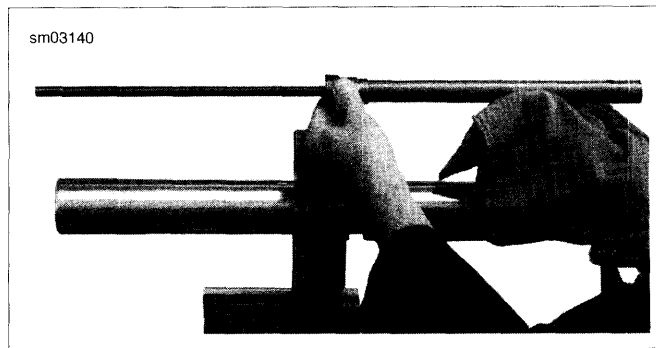

Figure 2-150. Cartridge Assembly
3. See Figure 2-150. Place fork in vise using FORK TUBE HOLDER (Part No. HD-41177). Remove cartridge assembly from fork slider.